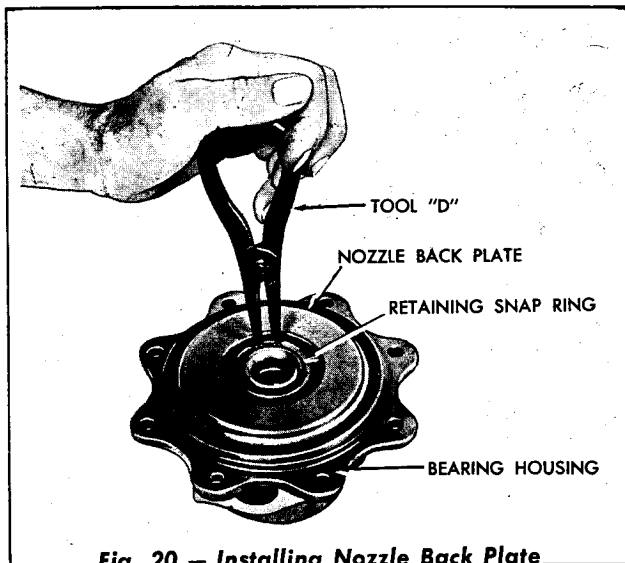

Fig. 20 — Installing Nozzle Back Plate Retaining Snap Ring
- d. Position nozzle back plate on bearing housing (Fig. 20) with dish side down. NOTE: For turbochargers having an internal shield and back plate, install the shield with dish side down and then the nozzle back plate.